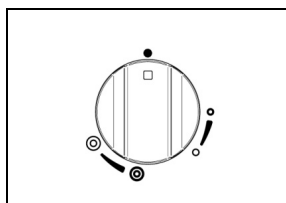

Fig 15A
- To light the central burner, press in the control knob (Fig.15A-15B) and turn it anti-clockwise to the bold single ring position